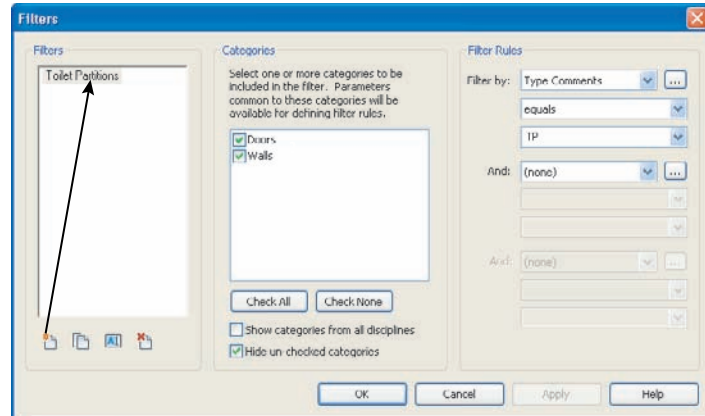

Figure 5.54
4. In the right section of the dialog box, choose the criteria your filter will use to "find" your elements (see Figure 5.54).